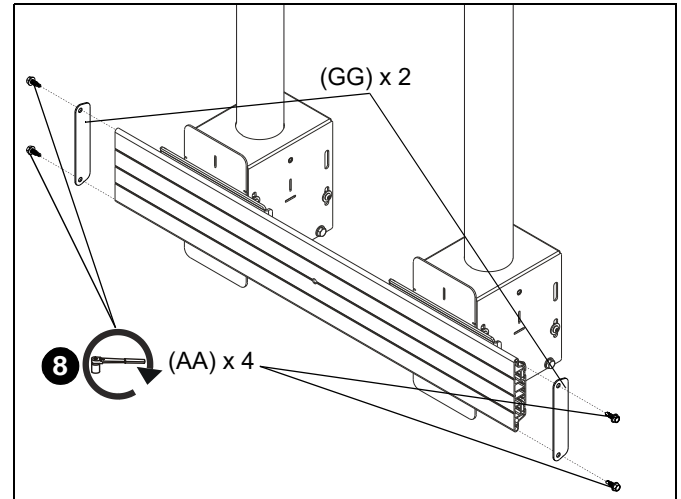

Figure 7
8. Use four 1/4-14 x 3/4" hex flange bolts (AA) to secure two side covers (GG) to ends of X-large rail (JJ). (See Figure 7)